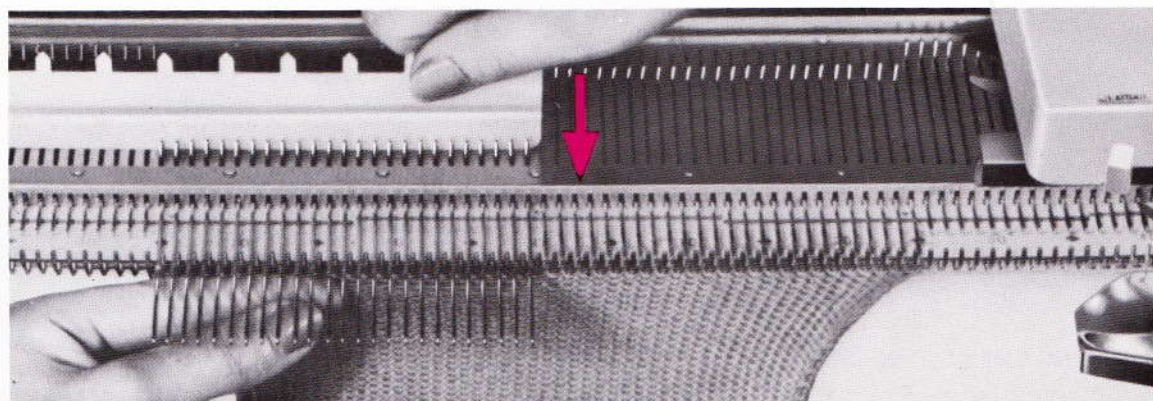

Fig. 159
2. With the flat needle selection bar, push the 25 needles at the left to F position holding the knitting against the needle bed with the left forefinger (fig. 159). From now on only the needles on the right will knit.